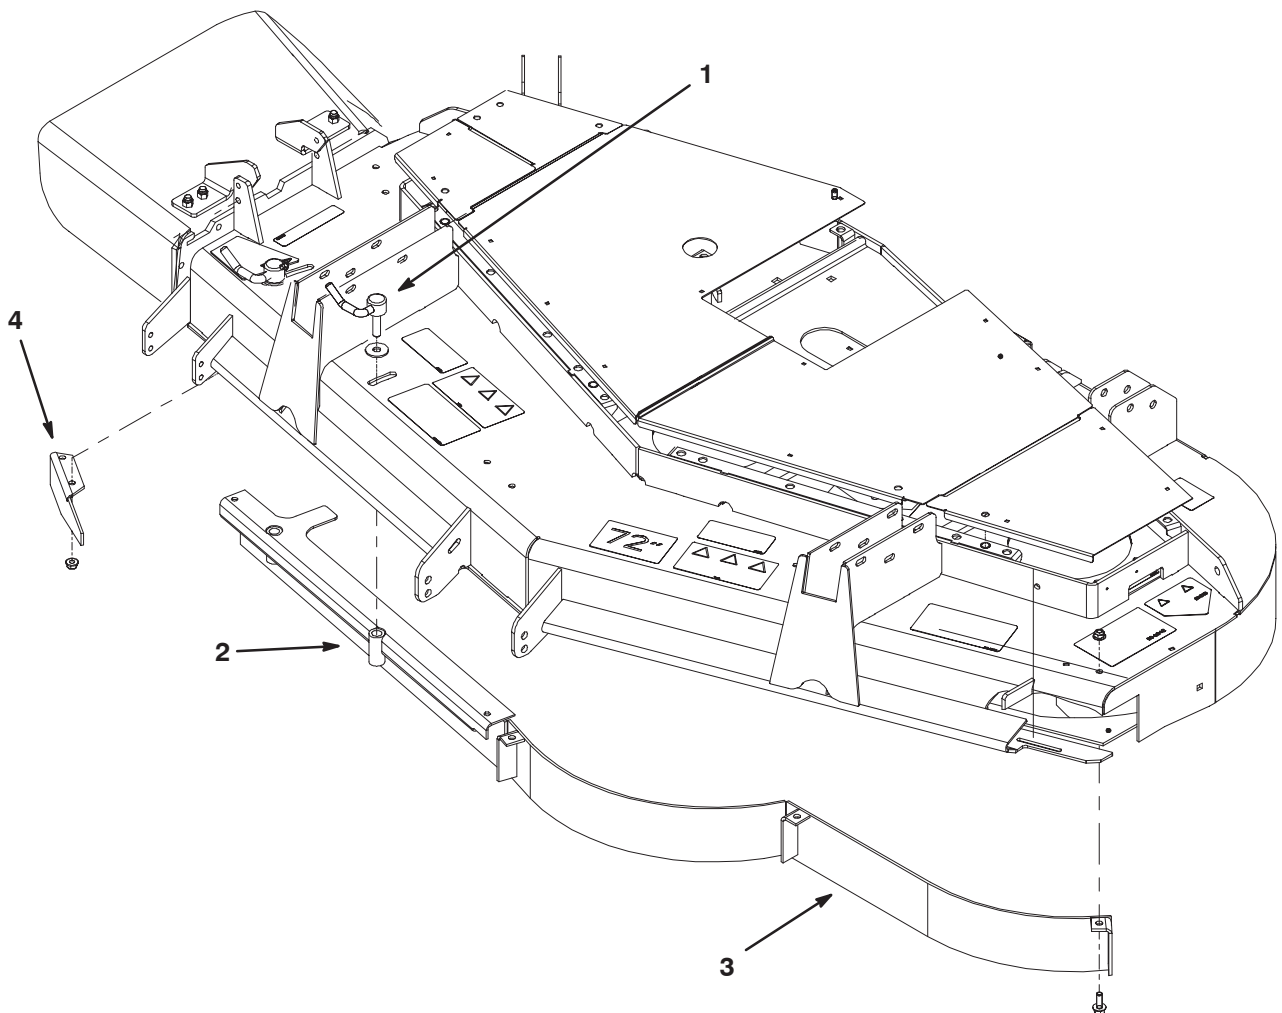

Figure 1
1. Remove the cam locks, washers, and the nut and bolt from the adjustable flow baffle (Fig. 1).
2. Remove the bolts and nuts holding the left baffle in place (Fig. 1).
3. Remove the bolts and nuts holding the discharge baffle (Fig. 1).